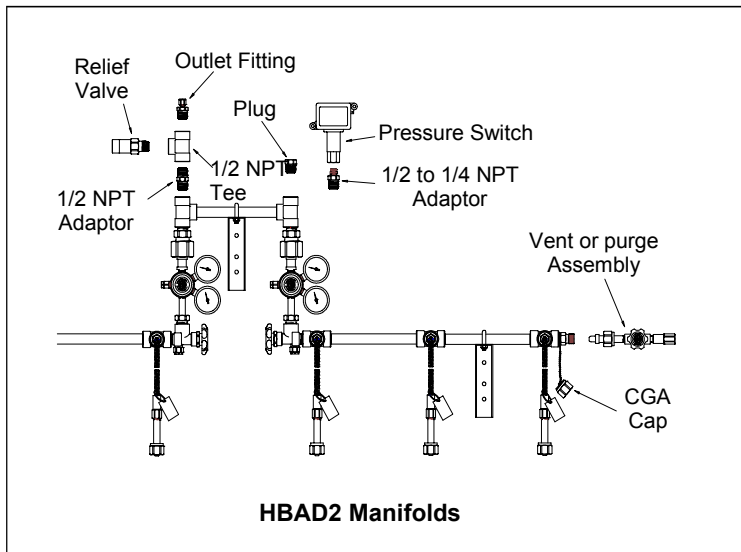

FIGURE 10a
HBAD2 manifolds: Remove the plug on the right side of the "H" section (Figure 10a). Install a 1/2 x 1/4 NPT adaptor into the tee. Install the pressure switch onto the adaptor.
1. Remove the CGA cap on the ends of the headers (Figure 10a & 10b).
HBAD2 manifolds: Remove the manifolds outlet fitting from the tee. Install a 1/2 NPT adaptor into the tee and a 1/2 NPT tee onto the adaptor. Install the outlet fitting and relief valve into the tee (Figure 10a).